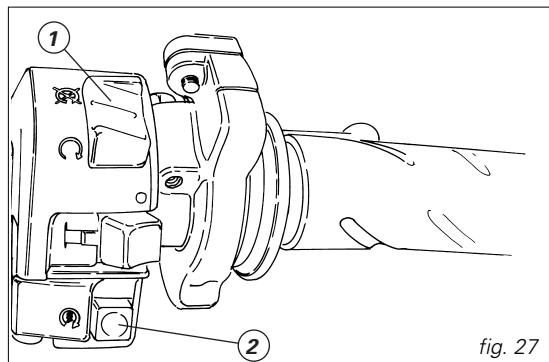

fig. 27
3) Check that the stop switch (1, fig. 27) is positioned to **○ (RUN)**, then press the starter button (2).